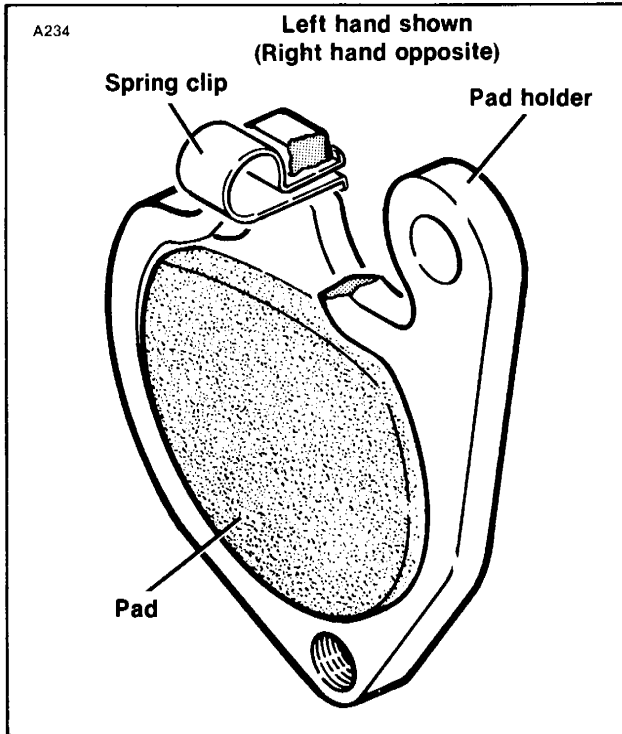

Figure 2-55. Spring Clip Installation
4. Position the gap of the retainer wire at the top of the caliper and compress the retainer wire (13) into the piston bore. Push the retainer wire firmly against the piston dust boot.
7. Lay the pad holder (7) down on a firm flat surface. If the caliper is right hand, the upper mounting bolt hole must be positioned at the upper left. If the caliper is left hand, the upper mounting bolt hole must be positioned at the upper right.
8. See Figure 2-55. Install the spring clip at the top of pad holder.
9. Take pad (9), the pad that has the insulator backing, and place it on top of the spring clip (8) with the lower end of the pad slightly entering the opening of the pad holder (7). With the pad centered within the pad holder and the insulated back facing downward, push down on the pad until it is against the flat surface and is held firmly by spring tension from the spring clip (8).
10. Insert the outer pad (9), pad holder (7) and spring clip (8) assembly into place with the backside of the pad against the face of the piston.